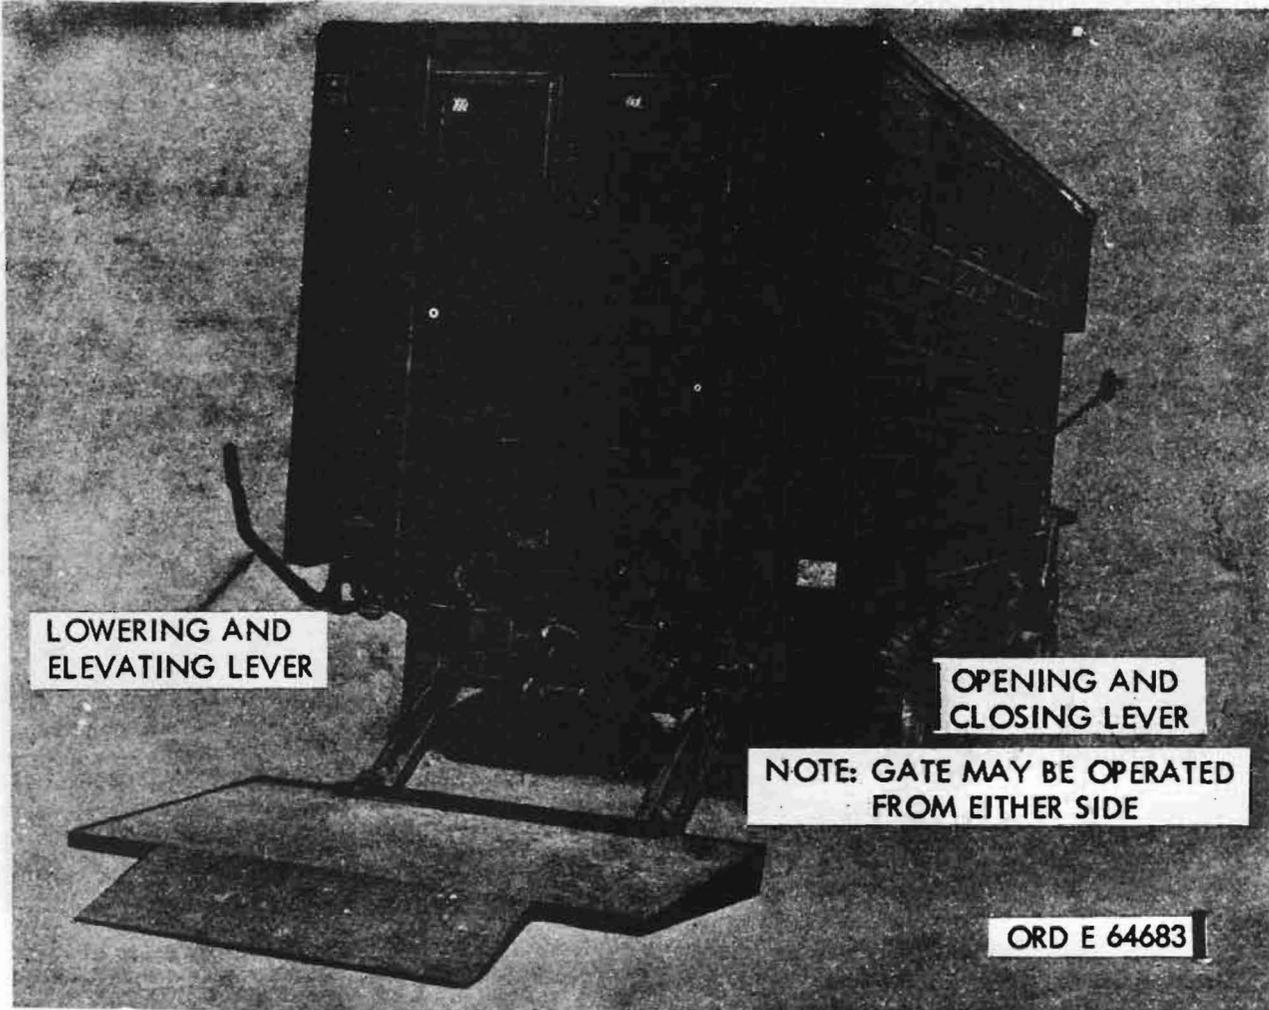

Figure 136.1. Power-operated lift gate — lowered position
d. Open lift gate by pushing opening and closing (horizontal) lever (fig. 136.1) DOWN to release lock hooks. Pull lever to extreme UP position. Gate will stop automatically when reaching the open position.
e. To lower lift gate, push lowering and elevating (vertical) lever (fig. 136.1) FORWARD towards the front of the truck to release the lock hooks. Pull lever BACK to extreme rear position. Gate will stop automatically just above the ground.